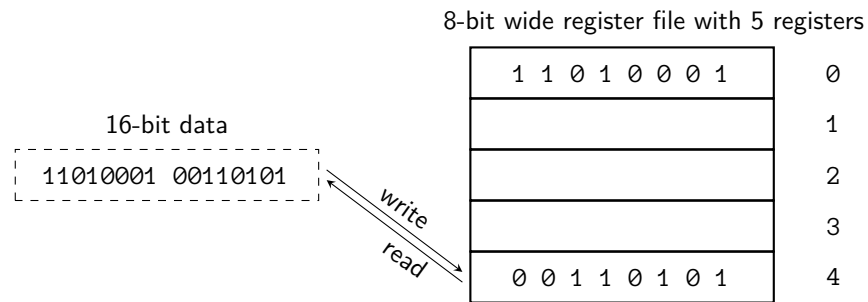

Fig. 4: Read/write of wider data in the last register
However, the number of registers in the file is limited, as said, there can be maximum 64 registers. If the last register is written/read in a wider machine mode, then the higher data part comes from or goes to the first register, as if they are subsequent neighbors. This is the property of register **circularity** of the ISA. Fig. 4 shows an 8-bit register file with five registers, in which the last register (4) is written/read in 16-bit machine mode.